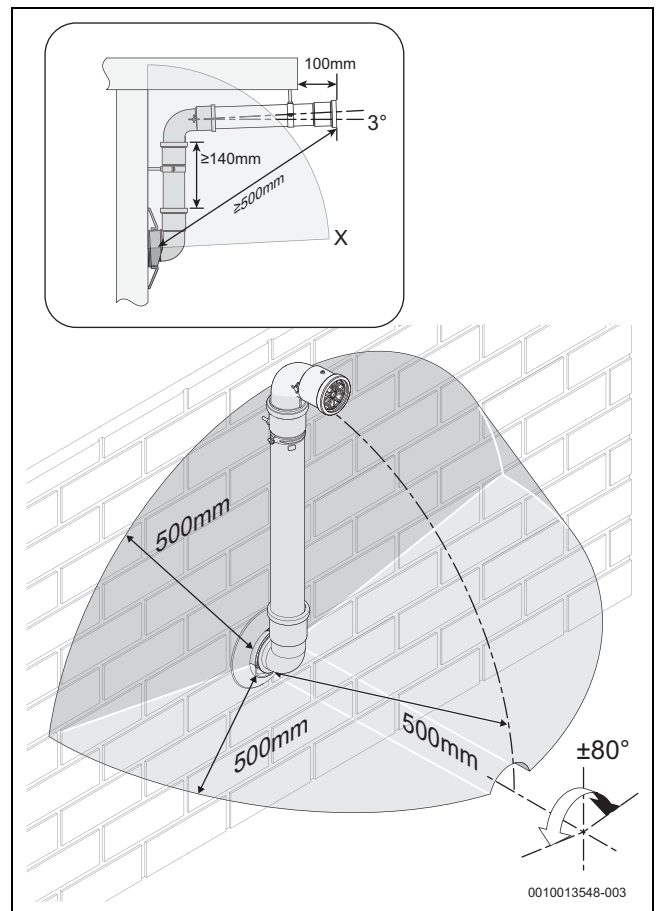

Fig. 30 Terminal exclusion zone
- ▶ Do not terminate the plume management inside the terminal exclusion zone (shaded area) shown in figure 30.